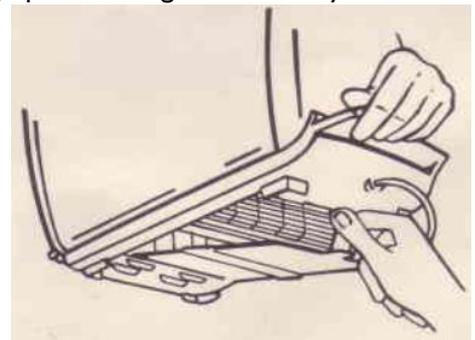

Figure 3
2. **NEVER TIP THE TOASTER UPSIDE DOWN**, otherwise crumbs may become caught in the toaster mechanism. Instead, hold the toaster upright (Figure 3) and spring open the hinged crumb tray.